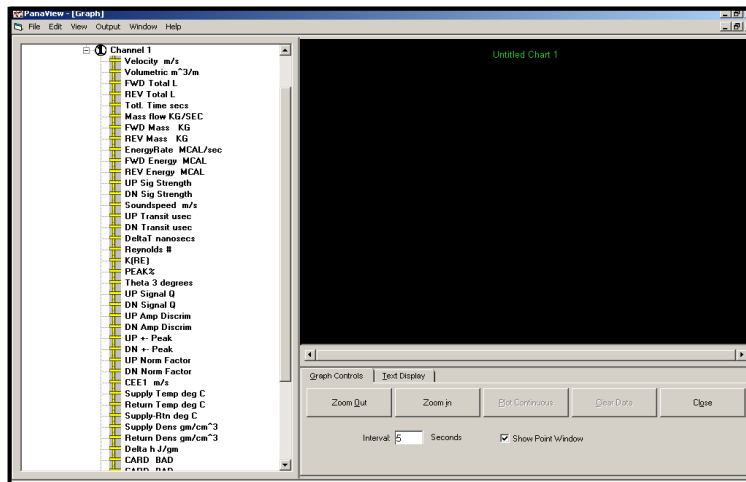

Figure 4: Graph Window
3. Using the *Window* menu, arrange the open windows in the desired format. For this discussion, Figure 4 shows the Graph window in its maximized (full-screen) size.